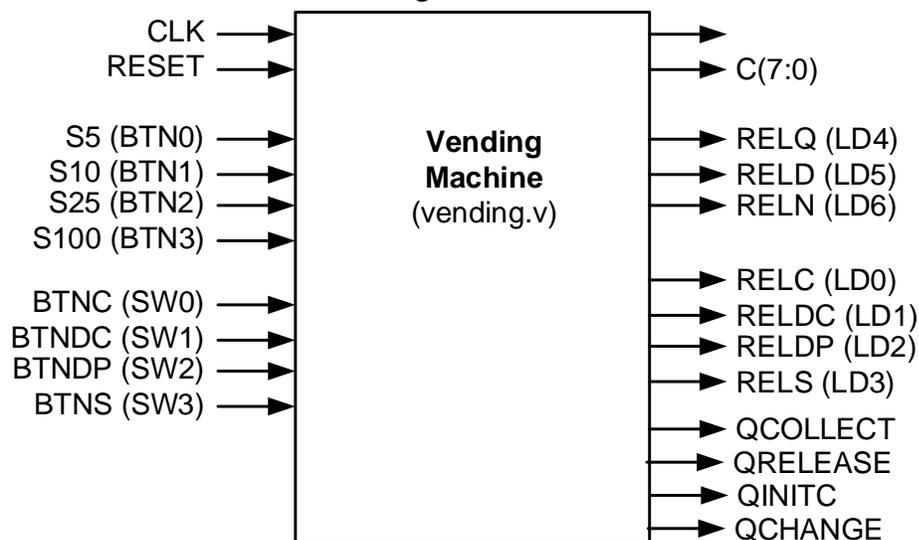

Figure 1 - Block Diagram of Vending Machine Design
9. Program your FPGA using the Adept tool and ensure it functions correctly. The corresponding I/O (push button, switch, LED assignments) are shown in Figure 1. Note: **Because we have a slow running clock; you will have to push the money sensor push buttons down for at least one full clock cycle for it to register.**